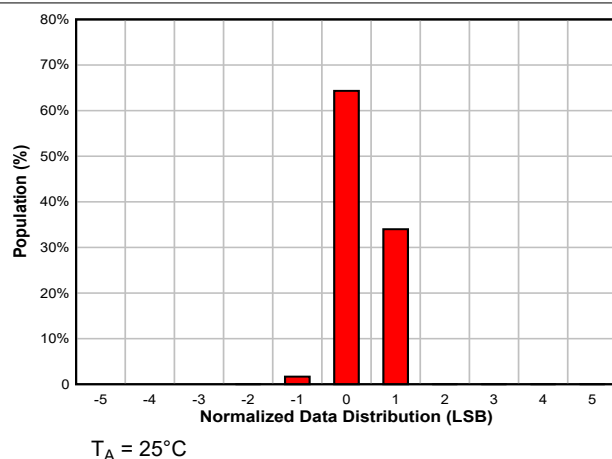

Figure 7-11. Data Distribution With 5.5-ms Conversion Time and Averaging On in 16-Bit Format
- (1) Repeatability is the ability to reproduce a reading when the measured temperature is applied consecutively, under the same conditions. See Figure 7-11
- (2) Long term stability is determined using accelerated operational life testing at a junction temperature of 150°C .
- (3) In bus powered mode $V_S = V_{PUR}$. In supply powered mode $V_S = V_{DD}$.
- (4) Quiescent current between conversions.
- (5) The pullup current parameter is required to size the bus pullup resistor (See Section 8.3.3) for active temperature conversion or EEPROM read and program or authentication operations.